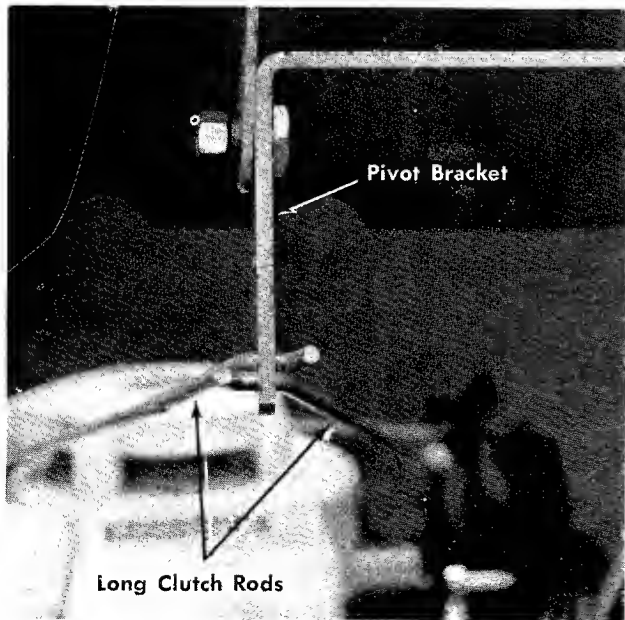

FIGURE 7
13. Assemble the two long clutch rods to the oblong hole on the long side of the pivot bracket. Hook the rods, with the right rod on the bottom, as shown in figure 7.